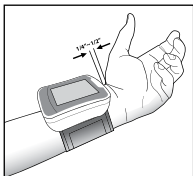

Fig. 2
5. Adjust the cuff $1/4"$ - $1/2"$ from the edge of the head of the ulna bone, Fig. 2.